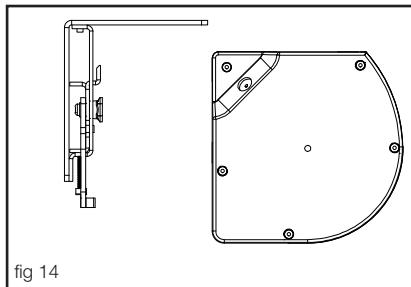

fig 14
- a) Mount the brackets on the wall or in the ceiling (fig 14)
- a) Montera konsolerna (fig 14)